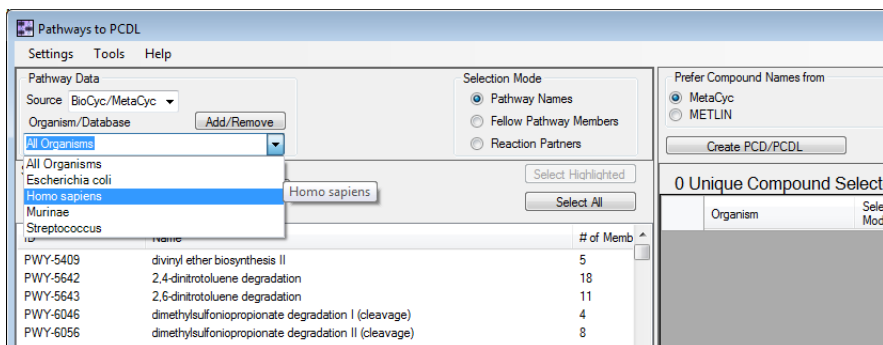

Figure 12 Select an organism to filter the pathways
- Review the updated list of pathways in the display pane (Figure 12).